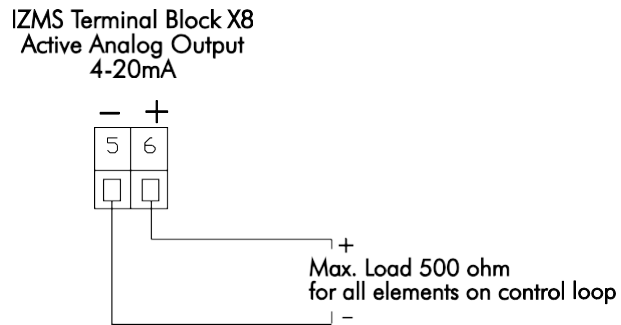

Figure 3-18. Analog Output Signal Wiring Configuration
- P Analog Output (Figure 3-18)